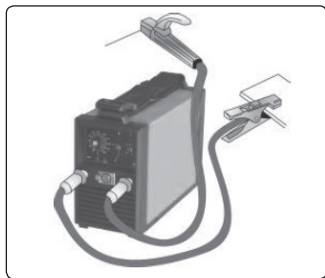

Fig. 2
- 1) Before connecting the welding unit to a power source (to a power supply line), first insert the welding cable connectors into the welding unit sockets and secure them in place by turning them clockwise. The electrode clamps (holders) (see fig. 2) are connected, in the absolute majority of cases, to the positive pole on the welding unit and the grounding clamp to the negative pole. Nevertheless, verify the necessary polarity for the welding electrode according to the manufacturer's instruction on the electrode package since certain acid electrodes are connected to the negative pole.
2) Mount a perfectly dry coated electrode stem into the electrode clamp (see fig. 2). The electrode must not have a damaged coat. Do not use damaged welding electrodes.